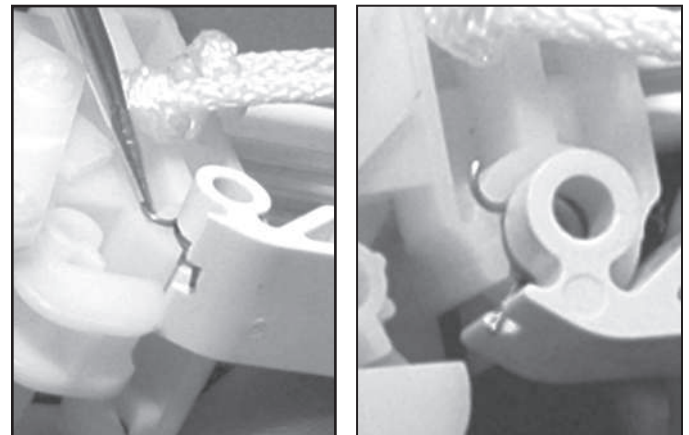

Figure 2
2. Using a small flat blade screwdriver slide the curved end of the spring out of the slot on the lead carrier and lift the swivel arm out of its channel (see Figure 2).